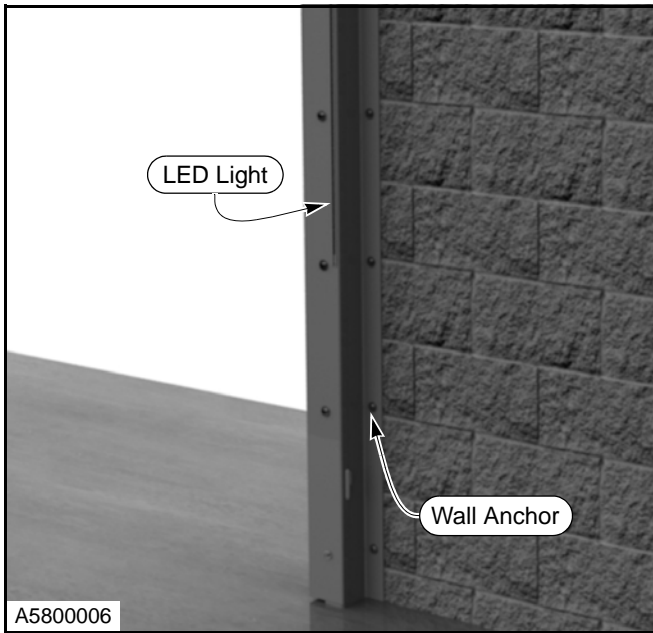

Figure 12
4. Anchor the side column (See "ANCHORING METHODS" on page 3). **DO NOT** tighten the anchors completely at this time — they will be tightened later on, after the head assembly is installed. (See Figure 12.)